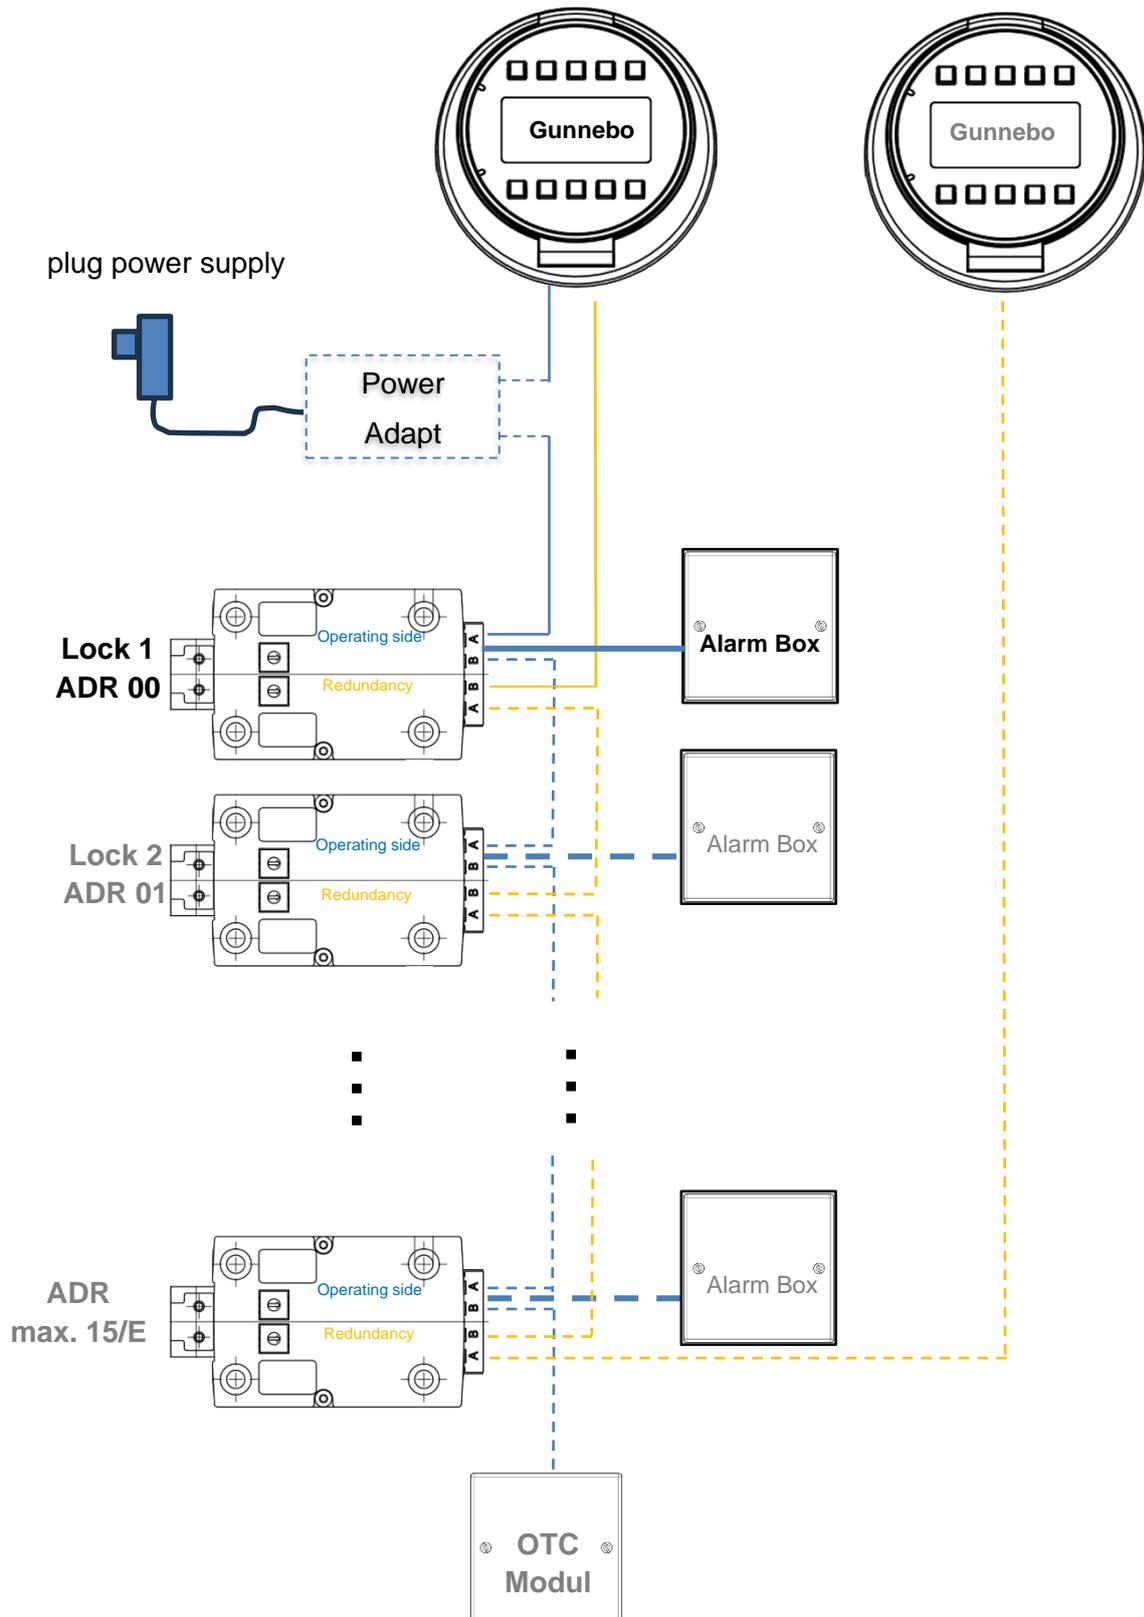

Figure 6 - Circuit topology
- Figure 6 - Circuit topology 9
The dashed lines shown in Figure 6 represent optional connections / system cables depending on the system configuration.